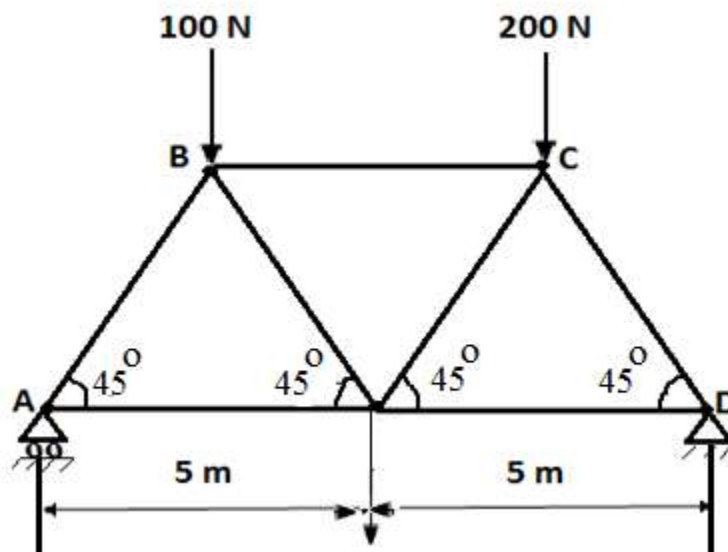

figure-4.
4. Find the forces in the members of the given truss shown in figure-4.